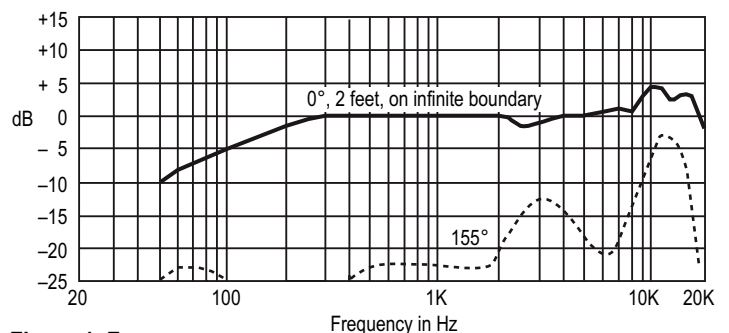

Figure 1. Frequency response
**Frequency response:** 80 Hz to 18 kHz with sound source 30° above the boundary plane. See Figure 1.